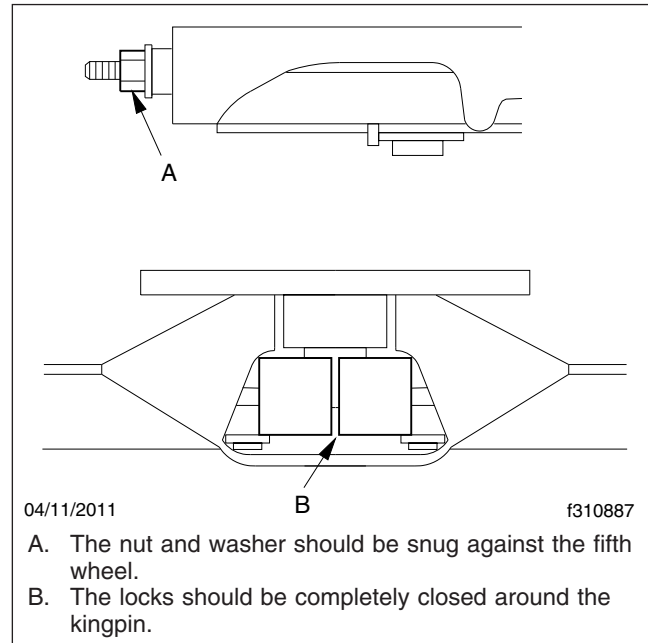

Fig. 3, Holland Fifth Wheel Properly Closed
6. Using a Holland Kingpin Lock Tester (Holland tool number TF-TLN-5001, available through the PDCs as HLD TFTLN5001), check the operation of the locking mechanism by opening and closing the locks. See **Fig. 3**.